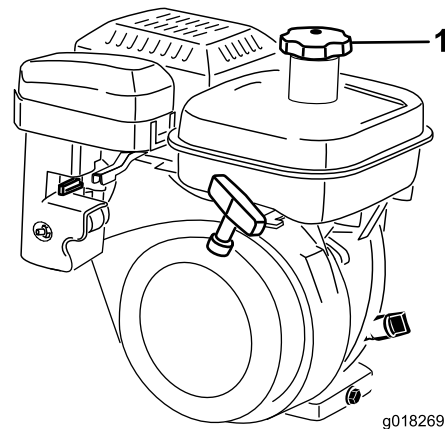

Figure 25
1. Clean around the fuel-tank cap and remove the cap from the tank (Figure 25). Fill the fuel tank no higher than to the bottom of the filter screen.